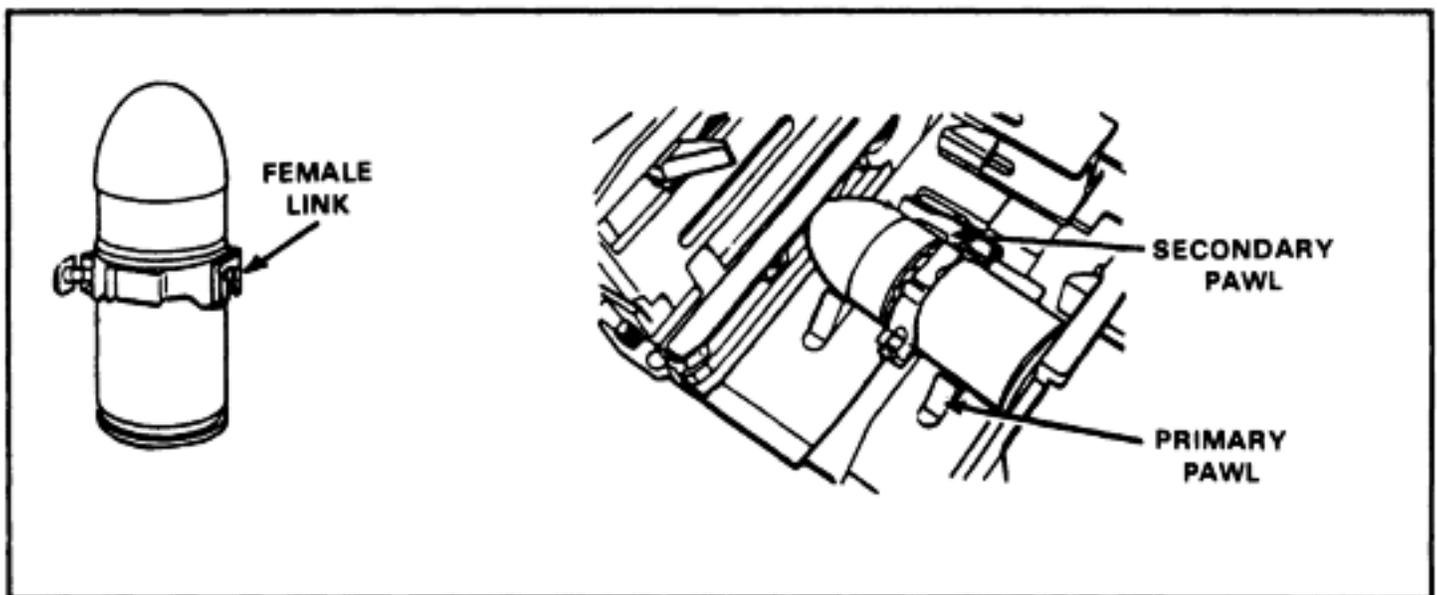

Figure 2-22. Loading of first round.
- (1) Insert the first round into the feeder (female link first) (Figure 2-22).